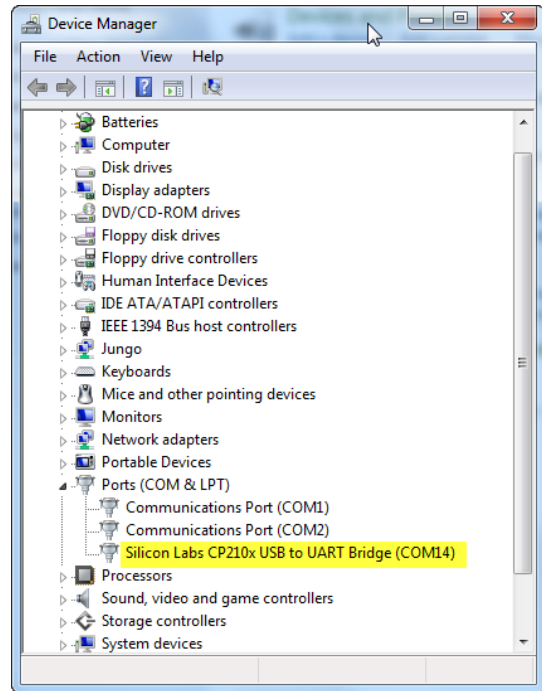

Figure 24 – Device Manager showing COM Port for A-910 Dongle
5. Locate **SILICON LABS CP210x USB to UART Bridge (COM x)** as shown in Figure 24.